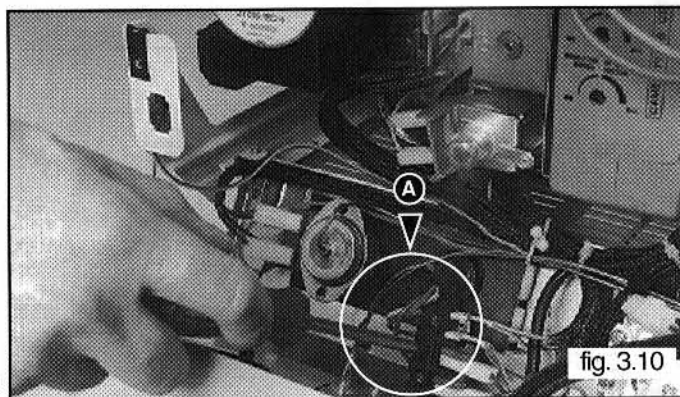

fig. 3.10
- 5 - Remove the cables from the terminals by loosening screws "A" (see fig.3.10);